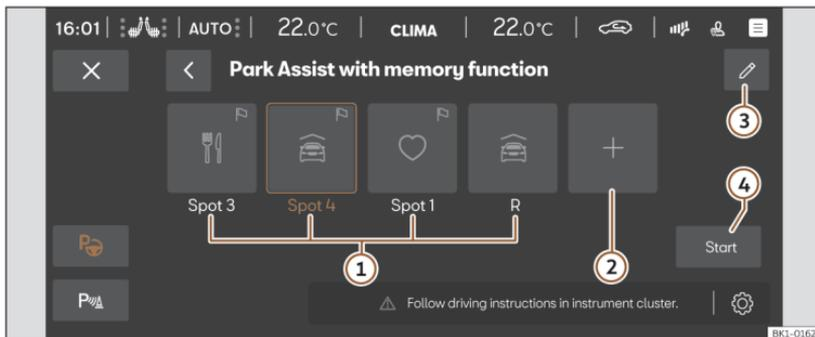

Fig. 149 Schematic representation: Parking system menu with memory function.
4. Select the function button, assign the symbol you want (>>> **Fig. 149 (1)**) and confirm it.
1. Press >>> **Fig. 149** ③.
2. If necessary, click on the parking space available icon in the Parking System menu >>> **Fig. 149 ①**. The function button will be displayed in blue.
3. Press the **Start** button >>> **Fig. 149 ④**.